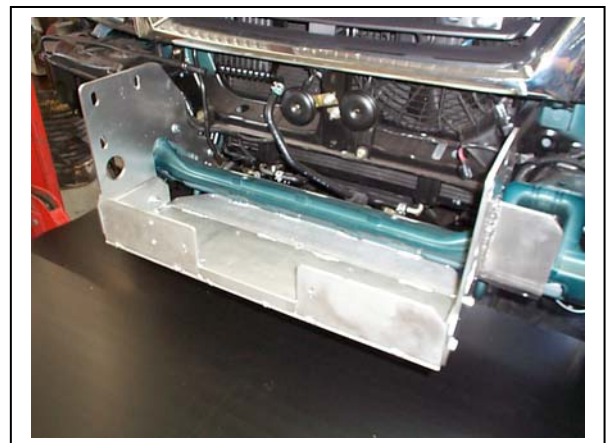

Figure 4
13. Lift winch mounting bracket (supplied) into position on inside of steel mounting bracket with rear of winch mounting bracket behind vehicle cross member. Use 3/8 x 1 ¼ bolts/nuts and washers (supplied) for securing to steel mounting brackets. **See figure 4.**